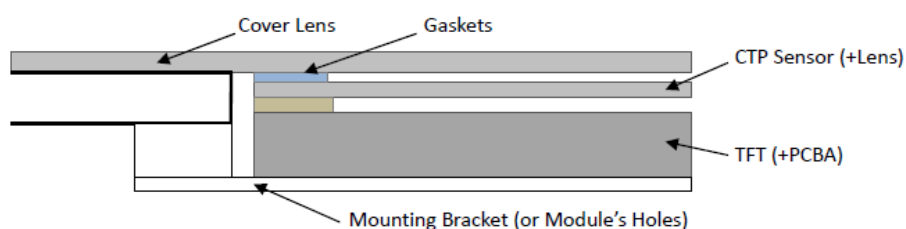

Figure 3**2. Handling Precautions**
1.3 Additional Cover Lens Mounting (Figure 3)